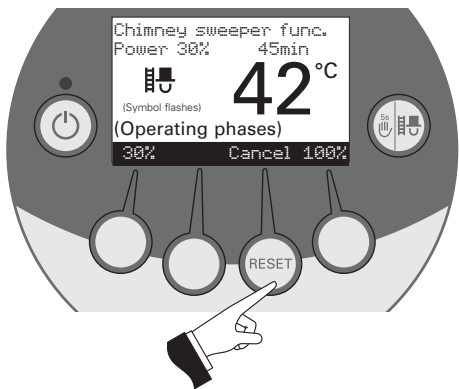

Fig. 22
Pressing the *Cancel* button or *Manual operation / chimney sweeper function* button terminates the function – Fig. 22. The boiler returns to automatic operation.
- when the *Cancel* button is pressed – Fig. 22.